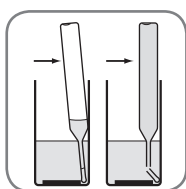

Figure 3
3. Place the Auto-Test cuvette in the sample cup. Snap the tip by pressing the cuvette against the side of the cup. The cuvette will fill leaving a small bubble to facilitate mixing. **See Fig 3.**